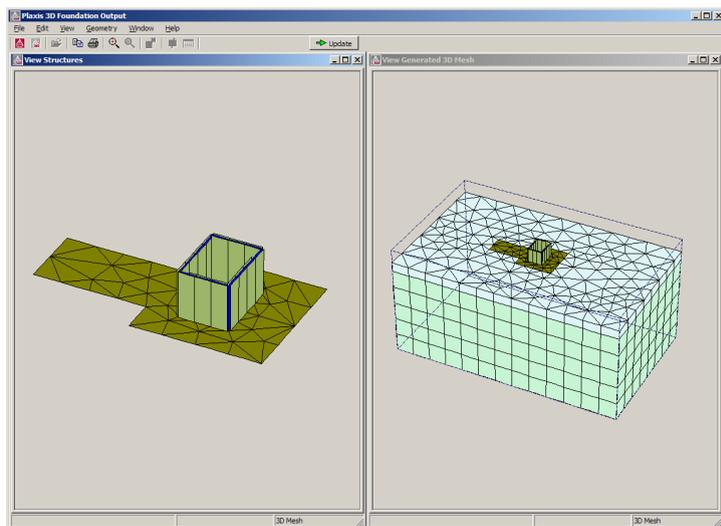

Figure 5.4 Preview of the generated 3D mesh
- Return to the main draw area and generate the 3D mesh (see Figure 5.4). Click <Update> to return to the main draw area.